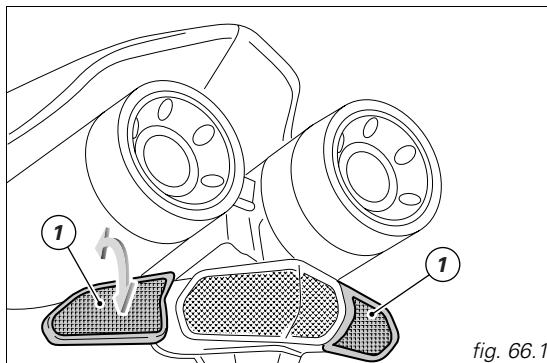

fig. 66.1
To change the rear turn indicator bulbs, rotate indicator body (1) by a quarter of a turn so that the glass is upward, and extract it from indicator mount (fig. 66.1).